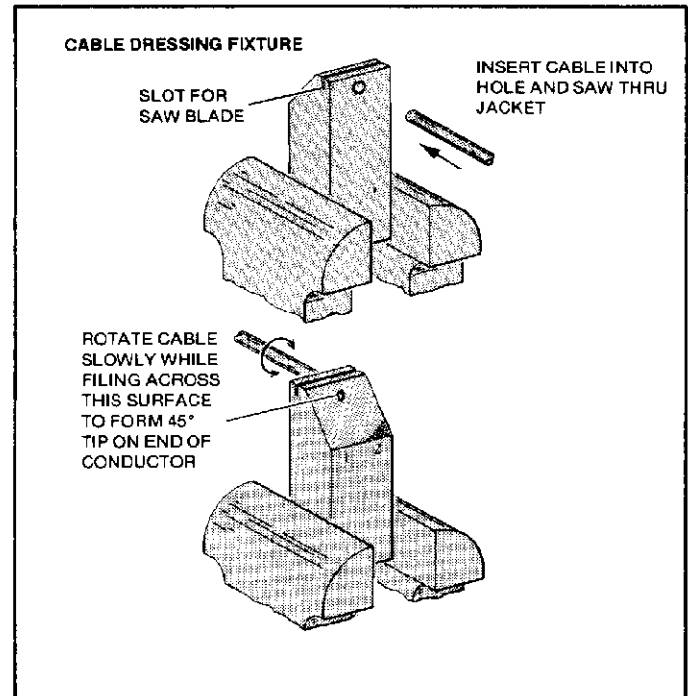

Figure 2
- Place cable dressing fixture in vise. See Figure 2. Insert cable into hole and saw thru jacket while slowly rotating cable, keeping pressure against fixture. Use a No. 0 jewelers saw (.011" to .013" thickness).
- Cable is now inserted into cable dressing fixture to file end of center conductor. See Figure 2. Keep pressure against fixture and revolve cable slowly while filing on 45° surface, see Figure 2. Use a small pillar or mill file. Continue filing until center conductor offers no resistance to file.